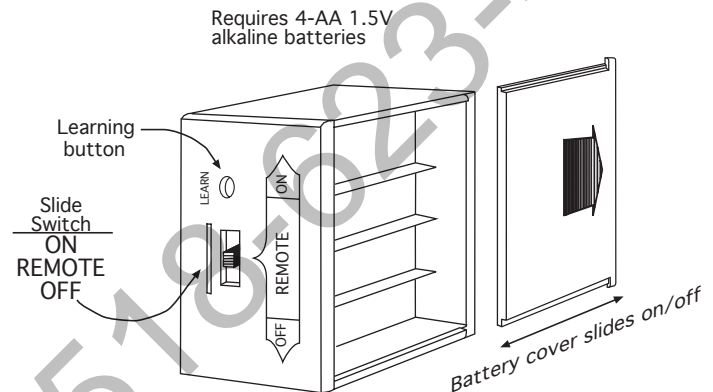

Fig. 11 Remote Receiver
The remote receiver houses the microprocessor that responds to commands from the transmitter to control system operation. It emits one beep when it receives an ON or OFF command manually, but no beep when cycling on and off automatically in THERMO mode. The remote receiver has a 3-position slide switch (Fig. 11) for selecting the ON/REMOTE/OFF mode of operation:
First, install (4) AA-size 1.5 **ALKALINE** batteries in the remote receiver (Fig 11). For best performance, remote receiver batteries should be factory fresh when installed. The system operates best when battery output is greater than 5.3 volts. Four (4) new AA batteries should provide an output voltage of 6.0 to 6.2 volts. **Be sure batteries are installed with the (+) and (-) ends facing the correct direction.**